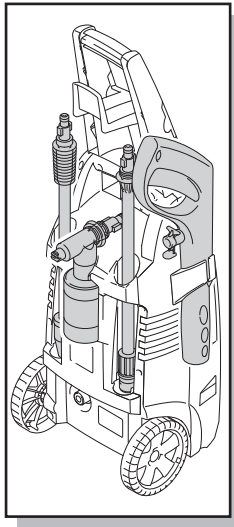

Fig.23
- The GHA should be stored in the accessories holder when your unit is not in use to prevent loss or damage. (Fig.23)
- Remove lance or detergent bottle from the gun and place in the accessories holder. (Fig.23) Make sure to remove the leftover detergent from the bottle. Flush the bottle and nozzle head with fresh water to prevent clogging.
- Place the gun in the accessories holder in the left slot. Lances are pressed into and stored in the half circle notches. (Fig.23)